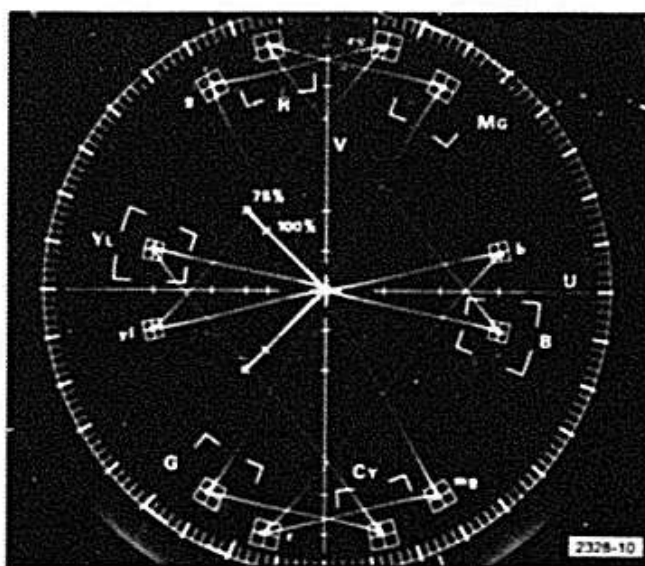

Fig. 4-3. Chrominance Bandpass Filter waveform monitor display.
e. CHECK—for a null at the green-magenta transition of the color bar display on the waveform monitor, similar to that shown in Fig. 4-3.